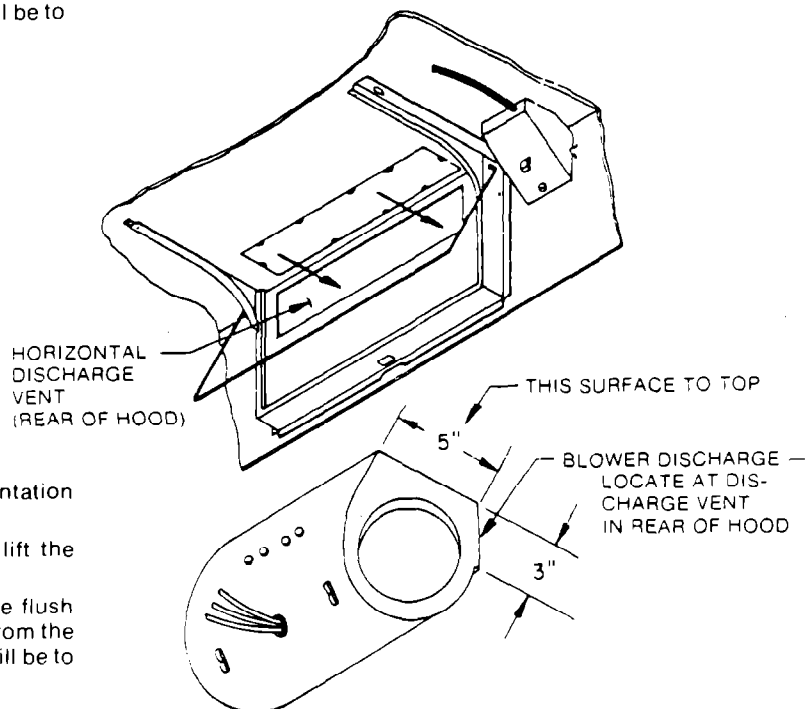

FIGURE 8
1. Figure 8 shows the proper Blower Assembly orientation for horizontal discharge.
2. From the Blower position shown in Figure 8, lift the blower Assembly vertically into position.